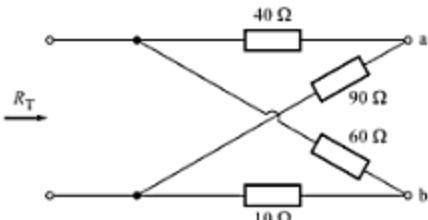

Fig. A-89
- A-51.** In the circuit shown in Fig. A-89, find the total resistance R_T with the terminals a and b (a) open-circuited, and (b) short-circuited.